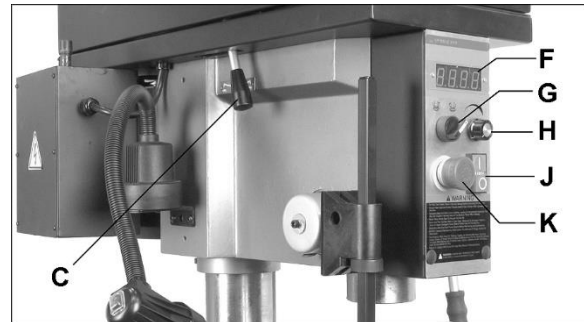

Figure 8-2: head left side (JDPE-20EVSC-PDF)
1. Press E-stop button (K, Figure 8-2).
2. Move the shift lever (C, Figure 8-2) to the Hi or Low speed range. Rotate the spindle nose by hand to assist engagement.